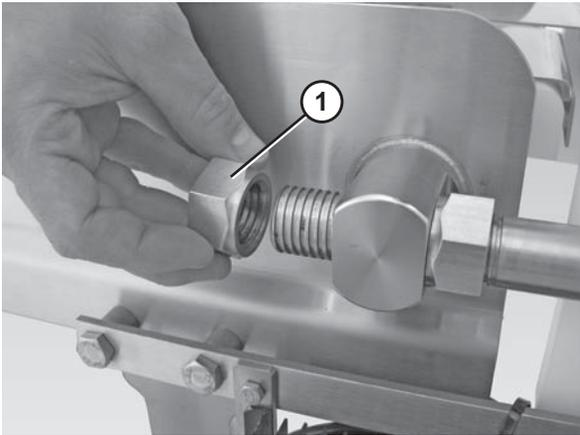

Figure 68
1. Remove the back nuts (Figure 68, item 1) on both discharge nose bar shafts.